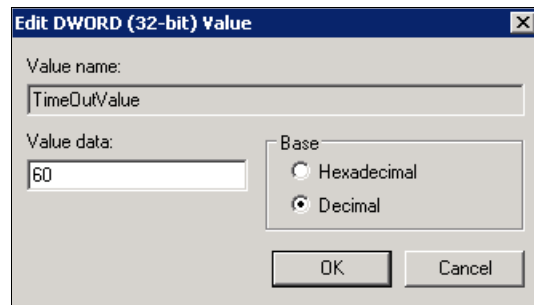

Figure 4-1 Windows timeout value
4. Confirm that the value for the key is 60 (decimal value), and, if necessary, change the value to 60 (Figure 4-1).